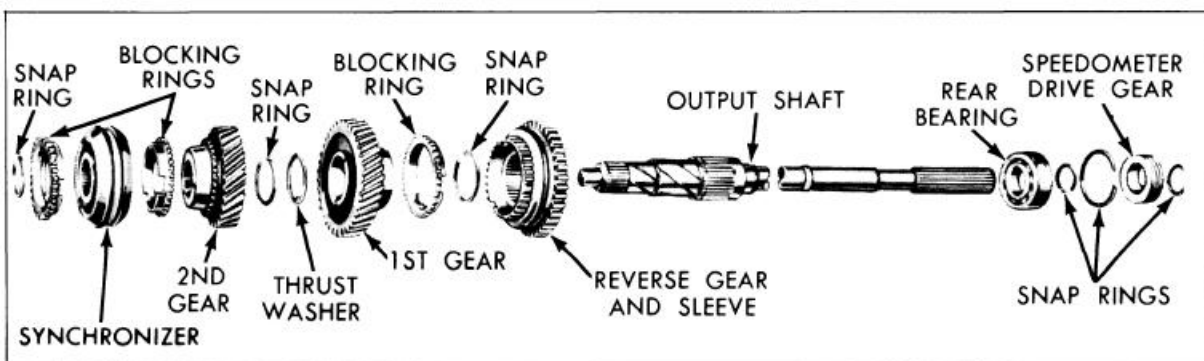

Figure 4-19—Mainshaft Exploded
7. Slide the 1st - reverse gear and sleeve assembly onto mainshaft with teeth of gear facing toward rear of shaft secure with snap ring. See Figure 4-19.
8. Coat tapered machine surface on 1st gear with grease. Place blocking ring on greased surface. See Figure 4-19.
9. Slide 1st gear onto mainshaft with blocking ring toward rear of shaft. Rotate gear as necessary to engage three notches in blocking ring with synchronizer inserts. See Figure 4-19.
13. Slide 2nd speed gear with blocking ring and 2nd - 3rd gear synchronizer onto the mainshaft. Tapered machined surface of 2nd gear must be toward the front of shaft. See Figure 4-19.